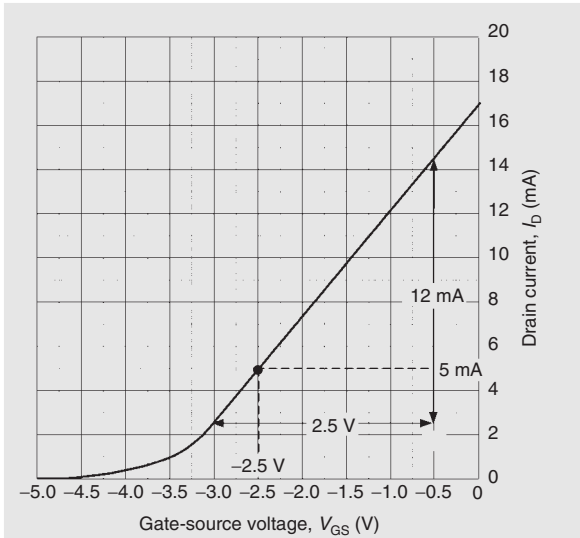

Figure 12.20
**Problem 8.** Figure 12.20 shows the mutual characteristic for a junction gate field effect transistor. When the gate-source voltage is  $-2.5$  V, determine (a) the value of drain current, (b) the dynamic value of forward transconductance.
- (a) From Fig. 12.20, when  $V_{GS} = -2.5\text{ V}$ , the **drain current,  $I_D = 5\text{ mA}$**
- (b) From Fig. 12.20